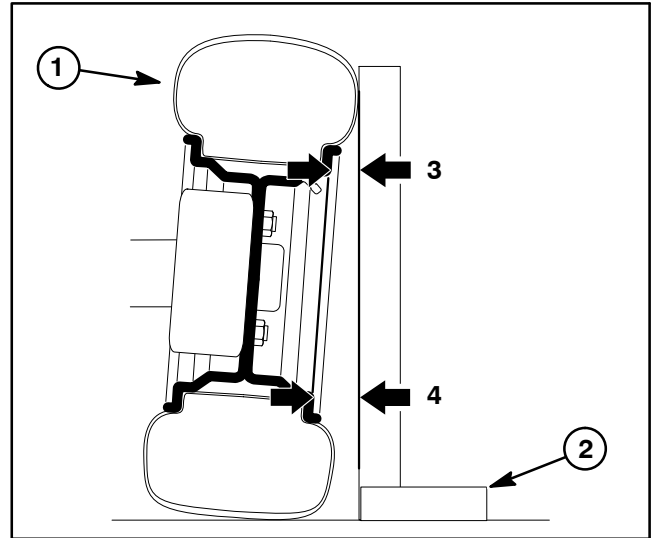
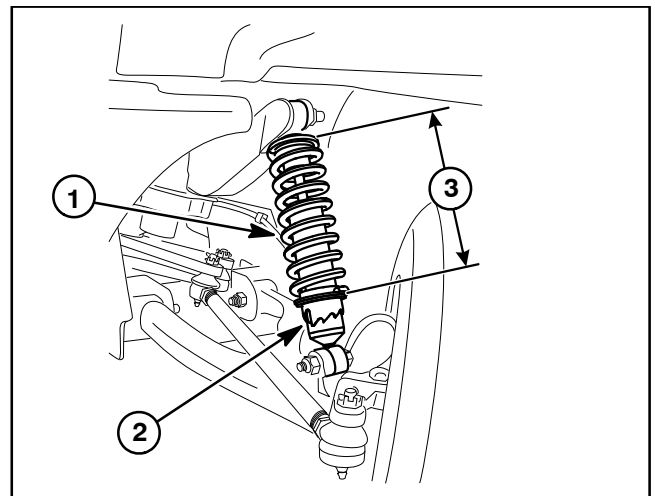

Figure 4
Figure 5
- A. Place a 90° square on the ground with the vertical edge touching the face of the tire (Fig. 4).
- B. From the same part of the rim, measure the distance from the top and bottom of the rim to the square. Record the two (2) measurements.
- B. Use spanner wrench (TOR6010: see Special Tools in this chapter) to rotate shock absorber collar which changes the length of the shock spring (Fig. 5). If the bottom camber measurement was too short, rotate the collar to reduce the length of the shock spring. If the bottom camber measurement was too long, rotate the collar to increase the length of the shock spring.